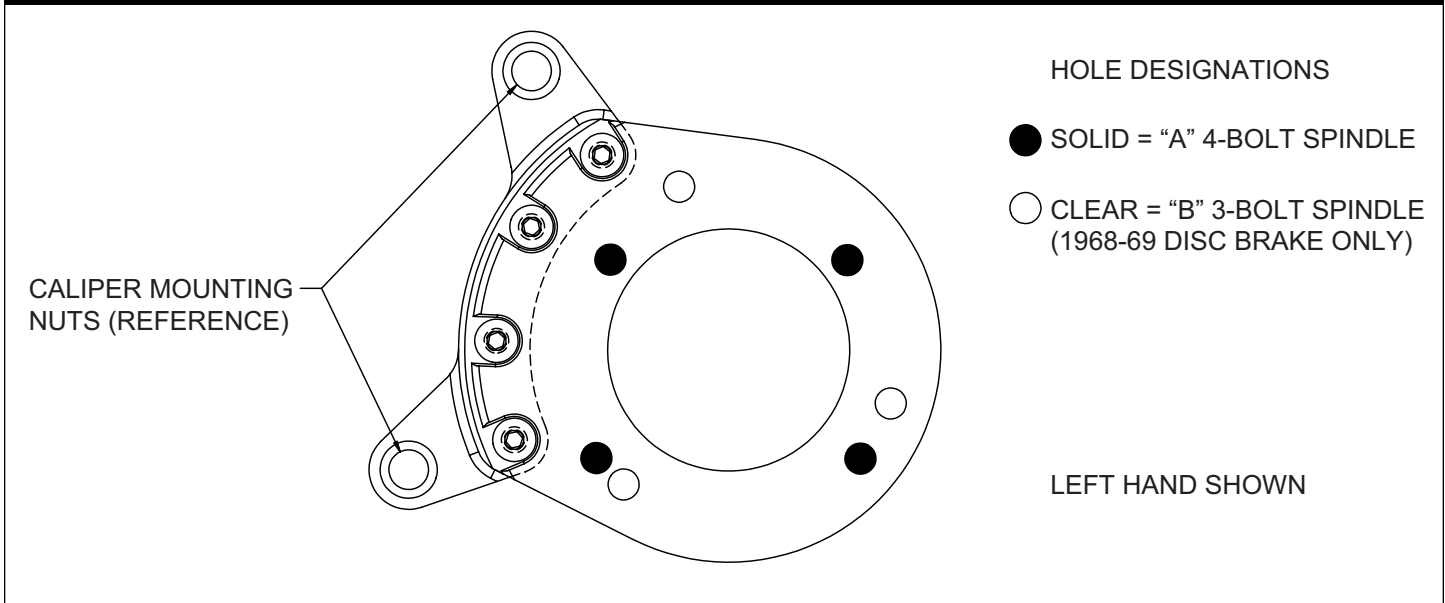
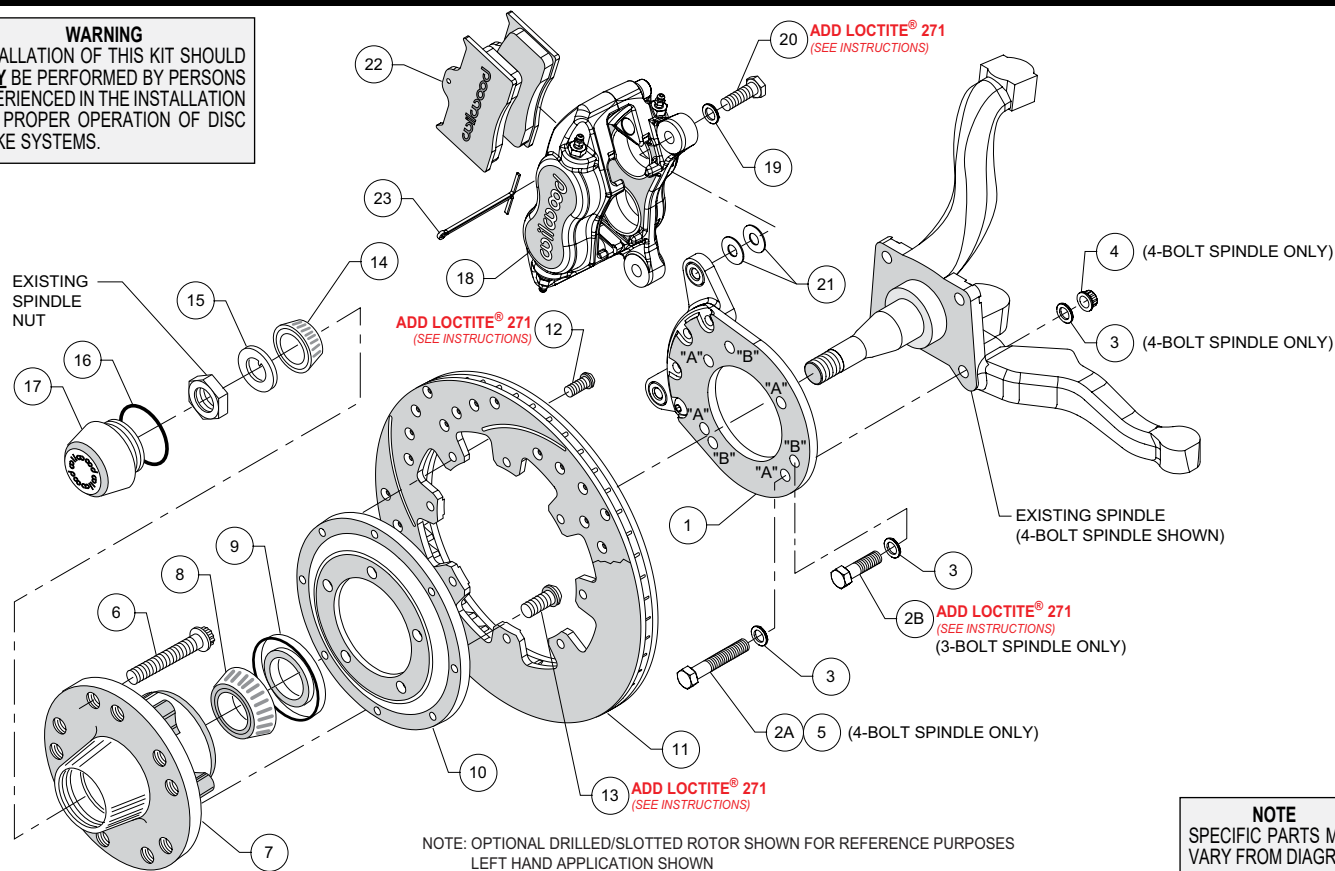
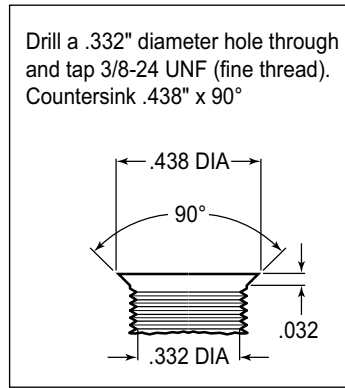
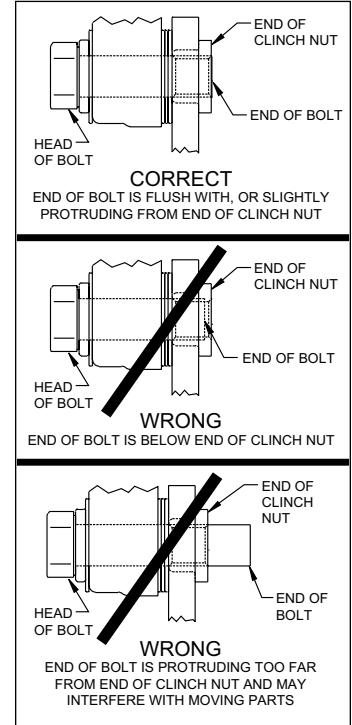

Figure 1. Wilwood Caliper Mounting Bracket
Figure 2. Typical Installation Configuration
Figure 3. Drill and Tap Detail
Figure 5. Clinch Nut Engagement Diagram
This kit has been designed for use with both three and four bolt spindle configurations. The only difference is in how the Wilwood caliper mounting bracket is installed. The same bracket is used for both configurations; only the 1968-69 disc brake spindle utilizes three mounting holes while all other spindles use the four mounting holes (see Figure 1). For your convenience we have supplied bolt kits for both applications (see parts list and Figure 2 as necessary). Use the bolt kit that is applicable to your vehicle and disregard the other one.
NOTE: This modification should be performed by a qualified machinist and completed before assembly of the Wilwood disc brake kit begins. Using the caliper mounting bracket as a template (refer to Figure 1 as necessary), locate and verify the three original holes on the spindle that need to be modified. Drill a .332" diameter hole through all three holes, then tap 3/8-24 UNF (fine thread). Countersink the holes to .438" diameter x 90°, as shown in Figure 3.
NOTE: Numbers in parenthesis refer to the parts list and Figure 2 on the preceding page.
CAUTION: All mounting bolts must fully engage clinch nuts. Be sure to check that all bolts are either flush or protruding through flanged side of clinch nut after shimming, Figure 5.
NOTE: This kit uses the same mounting bracket (1) for both the three and four bolt brake spindles. The 4-bolt version, Photo 1, uses four mounting bolts (designated "A"), while the 3-bolt version, Photo 2, uses three (designated "B"). Refer to Figures 1 and 2 for the basic installation position of the bracket and the "A" and "B" reference designations (not physically marked on the brackets).
For 4-Bolt Spindle: Align bracket, using the four "A" holes, to the face of the spindle and attach using bolts (2A and 5), washers (3), and lock nuts (4), as shown in Figure 2. Ensure that the flanged heads of the clinch nuts in the bracket are facing outboard, Photo 1. Torque lock nuts to 30 ft-lb.
For 3-Bolt Spindle (1968-69 Disc Brake): Align bracket, using the three "B" holes, to the face of the spindle and attach using bolts (2B) and washers (3), as shown in Figure 2. Finger tighten. Ensure that the flanged heads of the clinch nuts in the bracket are facing outboard, Photo 2. Remove bolts one at a time, apply red *Loctite*® 271 to threads, and torque to 40 ft-lb.
•Install wheel studs (6) into the hub (7), Photo 3. Torque to 77 ft-lb. **NOTE:** There are two five lug patterns in the hub (5 x 4.50 and 5 x 4.75). Ensure the correct hub stud pattern is being used to fit the wheel application.
- Pack the large inner bearing cone (8) with high temperature disc brake bearing grease (available from your local auto parts store) and install into the backside of the hub (7), Photo 4.
- Install the grease seal (9) by pressing into the backside of the hub (7), flush with the end of the hub, Photo 4.
- Orient the rotor (11) and the rotor adapter (10) as shown in Figure 2 and Photo 5. Attach the rotor to the adapter using bolts (12). Using an alternating sequence, apply red *Loctite*® 271 to the threads, and torque to 25 ft-lb.
- Mount the adapter/rotor assembly (10/11) to the hub (7) using bolts (13), as shown in Figure 2 and Photo 6. Using an alternating sequence, apply red *Loctite*® 271 to the threads, and torque to 45 ft-lb.
- Pack the small outer bearing cone (14) with high temperature disc brake bearing grease and install into hub (7). Slide the hub/rotor assembly onto the spindle. Secure using spindle washer (15) and OEM spindle nut, Photo 7. Adjust bearings per OEM specifications. Install saved OEM nut lock (if any) and a new cotter pin (not included).
- Screw dust cap (17) into hub (7), Photo 8. Friction created by the o-ring (16) on the dust cap keeps it from unscrewing. **NOTE:** *The O.D. of the existing OEM spindle washer may be larger than the I.D. of the dust cap not allowing it to seat against the hub face. Therefore, use the spindle washer (15) supplied with the kit instead of the OEM washer.*
- NOTE:** *Please reference the caution statement at the beginning of the assembly instructions.* Mount the caliper (18) onto the caliper mounting bracket (1) using bolts (20) and washers (19), as shown in Figure 2. Initially place two .035" thick shims (21) on each bolt between the caliper and the bracket, Photo 9. Temporarily tighten the mounting bolts and view the rotor (11) through the top opening of the caliper. The rotor should be centered in the caliper, Photo 10. If not, adjust by adding or subtracting shims between the bracket and the caliper. Always use the same amount of shims on each of the two mounting bolts. **NOTE:** *The end of each bolt must be flush with or slightly protruding from the head of the clinch nut, as shown in Figure 5.* If necessary place spare shims between washer (19) and caliper mounting ear to achieve the proper clinch nut engagement. Once the caliper alignment and clinch nut engagement are correct, remove the bolts one at a time, apply red *Loctite*® 271 to bolt threads, and torque to 40 ft-lb.